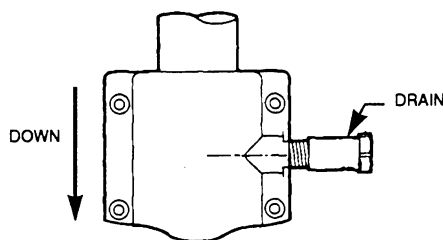

FIGURE 6
- For vertical installations an ECD15 drain is recommended to drain water in the conduit system. The drain fitting is installed in the pour opening (top pipe plug opening) as shown in Figure 6.